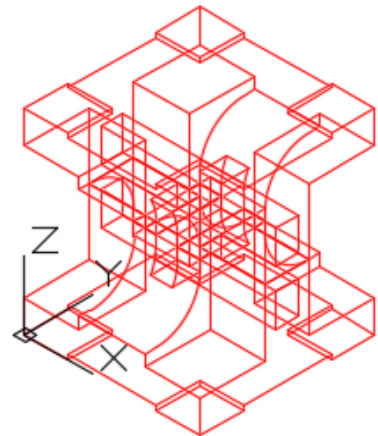

Figure Step 2
Step 2 Mirror the original model so that the mirrored copy lies on top of the existing model as shown in the figure. (Figure Step 2)